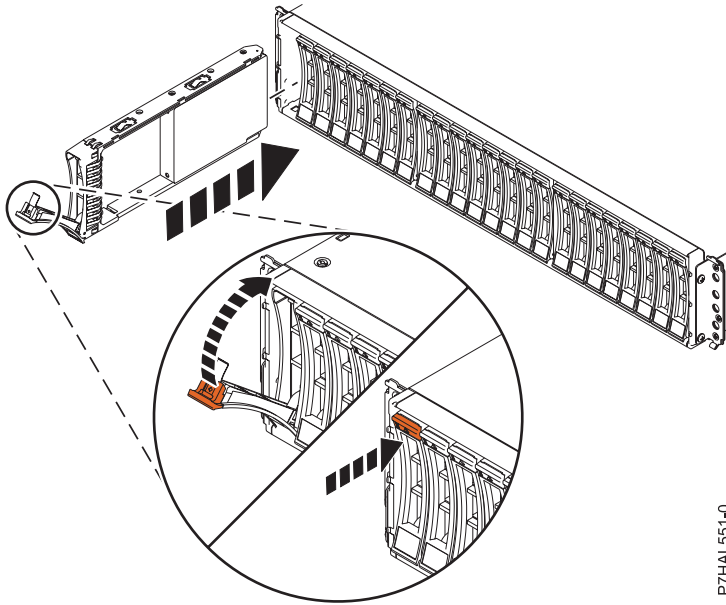

Figure 31. Installing the disk drive in the 58/87 disk drive enclosure
1. With the handle in the unlocked position, as shown in Figure 31 on page 32, support the bottom of the drive as you align it with the guide rails in the expansion unit.